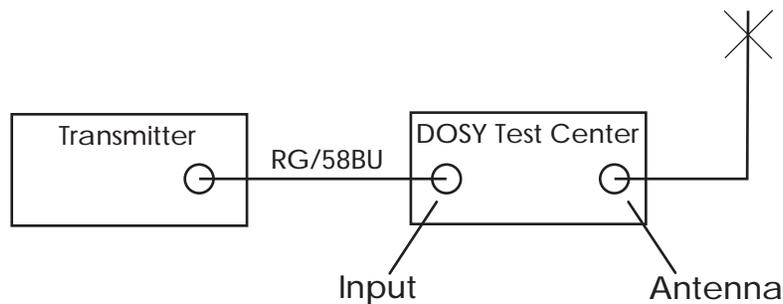

Figure 1
1. Turn Mode Selector Switch (#5 Fig. 1) to MOD position
2. Switch SSB/AM rocker (#6 Fig. 1) to SSB
The TC-4001 Test Center will indicate the power output (in watts) of your equipment at the point in the transmission line where you have installed the test center. To measure any power from 1 to 2000 watts, just set the Mode Selector Switch (#5 FIG. 1) to the appropriate range: 20, 200, 2000 watts.
If wattage to measure is larger than 2000 watts, the 2000/4000 switch (#3 Fig. 1) must be switched to 4000. When returning back to the 2000 watt scale, you must return the switch (#3 Fig. 1) back to the 2000 watt setting.
1. Turn Mode Selector Switch (#5 Fig. 1) to SWR-SET Position.
2. Turn SWR RF Level Control (#1 Fig. 1) to Min.
3. Key transmitter and turn SWR RF Level Control clockwise (#1 Fig. 1) to give a full scale meter reading to Set Line on the SWR Meter (#1 Fig. 1).
4. With Transmitter keyed, switch Mode Selector Switch (#5 Fig. 1) to the SWR position and read SWR ratio directly on SWR Scale.
1. Turn Mode Selector Switch (#5 Fig. 1) to the MOD position
2. Switch Set/Modulation rocker (#4 Fig. 1) to SET
3. Switch Modulation Mode rocker (#6 Fig. 1) to AM
4. Turn RF Level control (#1 Fig. 1) to MIN
6. With Transmitter keyed, switch SET/MOD rocker (#4 Fig. 1) back to MOD position and talk into the microphone or steadily whistle to read modulation percentage on the AM Scale.